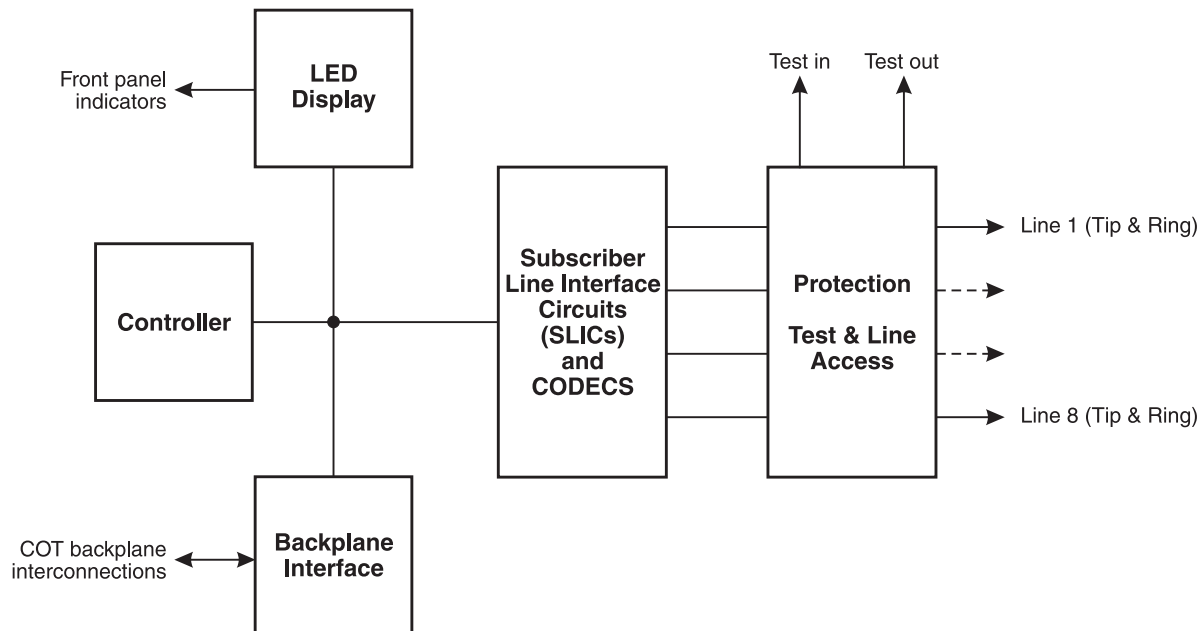

Figure 3. FRC-754 Block Diagram
5.2 A block diagram of the FRC-754 Channel Unit is shown in Figure 3. One 8-Channel RT Channel Unit supports eight POTS interfaces.